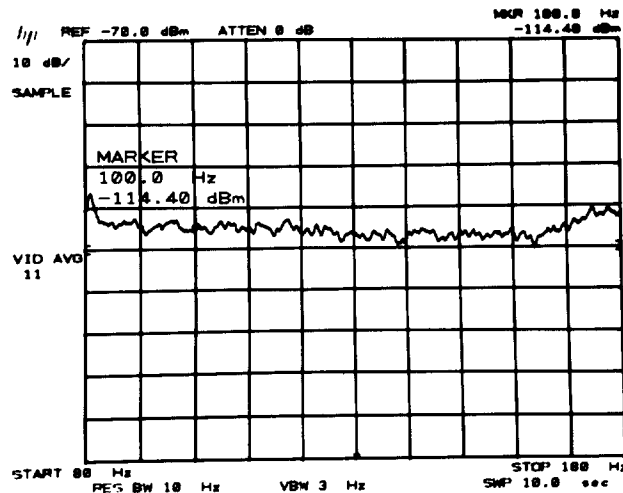

FIGURE 26. AVERAGE NOISE LEVEL MEASUREMENT
7. Press MARKER NORMAL. Tune to 100 Hz, or the nearest frequency that is not on the slope of the LO feedthrough or on a line-related sideband (e.g., 120 Hz). Refer to Figure 26.